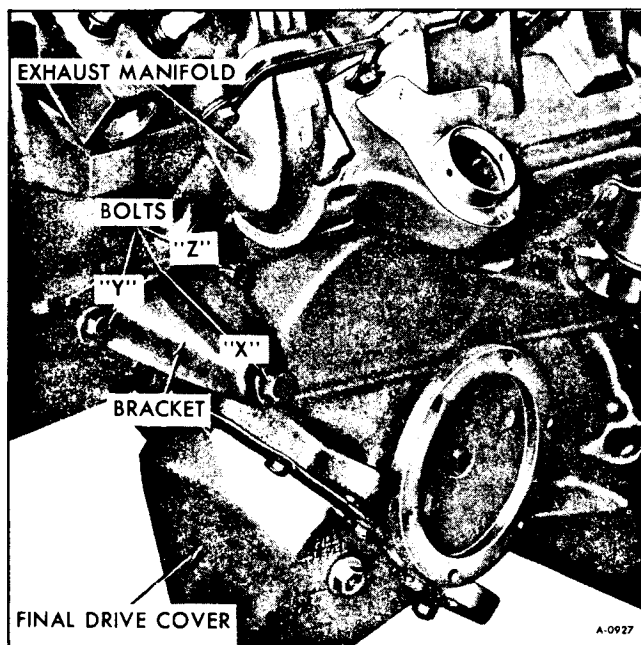

Figure 15—Disconnecting Final Drive From Engine
7. Remove bolt "X" and "Y" and loosen "Z". (figure 15)
7. Install bolt "X" and torque to 105 ft. lbs. Tighten and torque bolts "Y" and "Z" to 50 ft. lbs. (figure 15)